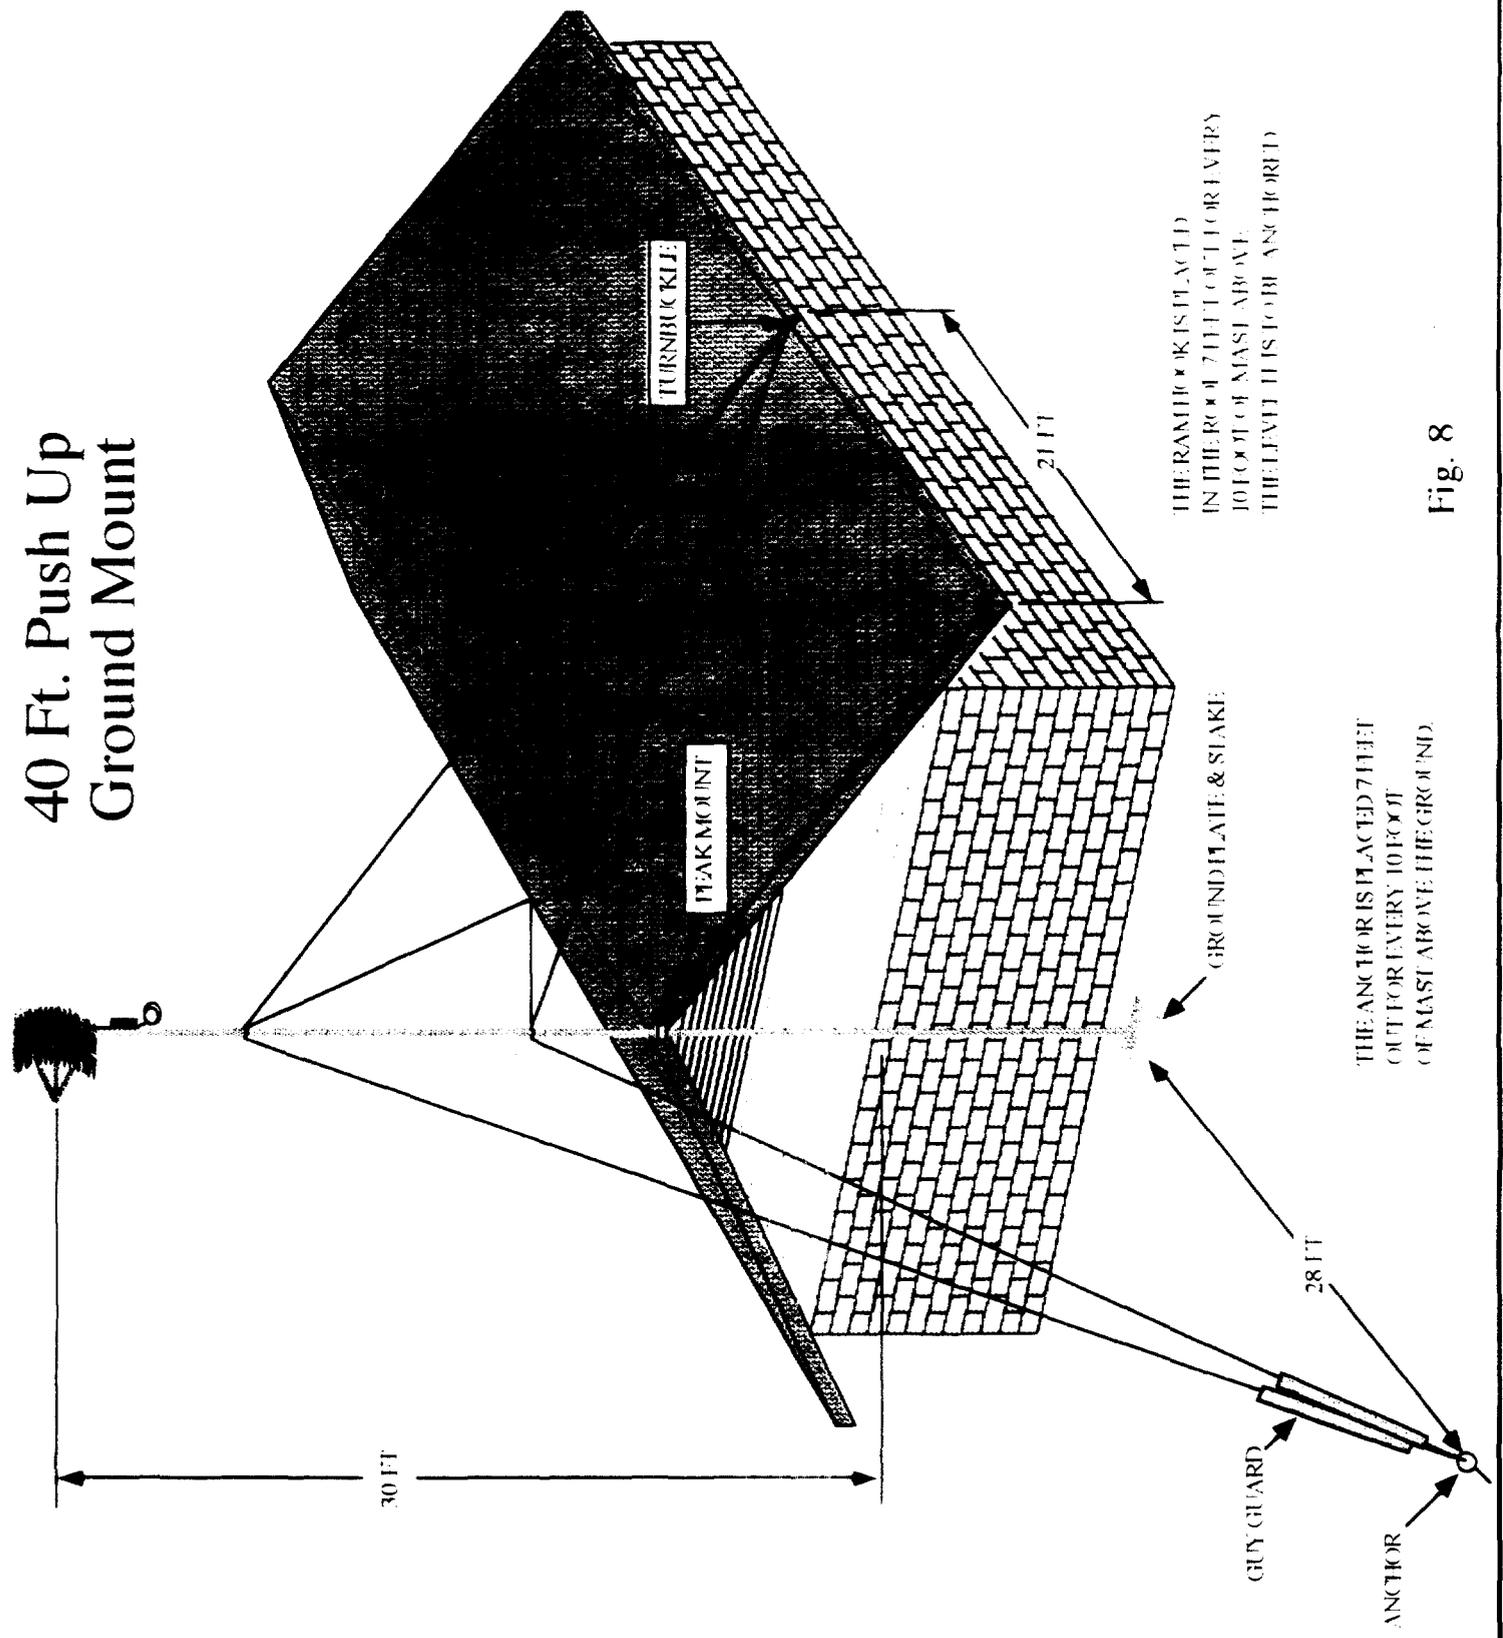

Fig. 8
- On the 40 and 50 foot ground mounts one of the guy wire anchor points will be in the ground on a 90 degree angle from the structure the mast is attached to. An auger or rock anchor is used at this anchor point. The auger or rock anchor is to be placed a minimum of 7 feet out for every 10 feet of mast above the ground. The ram hooks are to be placed a minimum of 7 feet out for every 10 feet of mast above the roof. A yellow guy guard will be used on each guy wire that is attached to an anchor. (See Fig 8 & 9).